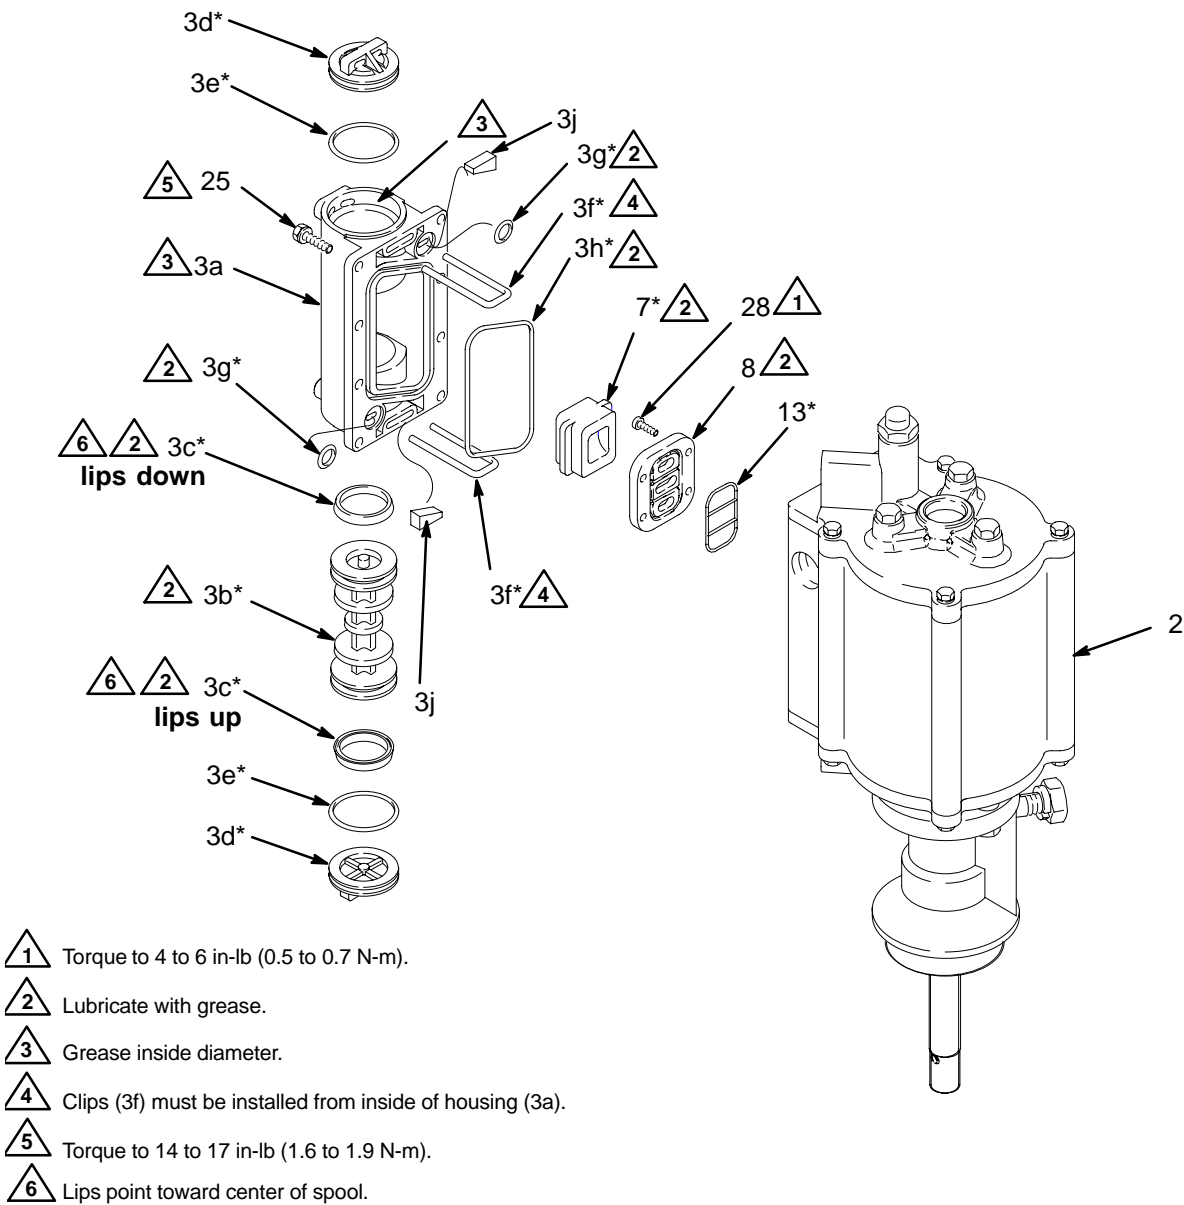

Fig. 12
1. Remove the screws (25) holding the director valve (3) to the cylinder (2). Be careful not to drop the valve cup (7) as you remove the housing; the cup can be easily damaged. Inspect the cup surface for scratches. If damaged, replace the cup. See Fig. 12.
1. Install the valve gasket (13) and plate (8) on the cylinder (2). Be sure the surface of the plate facing out is free of scratches or damage. Install the screws (28), and torque them oppositely and evenly to 4 to 6 in-lb (0.5 to 0.7 N.m).
4. Grease the valve cup (7) and the valve plate (8). Orient the cup as shown in Fig. 12. Place the cup on the valve plate so its position corresponds to the position of the spool, as you noted in step 1 at left.
5. Place the director valve housing (3a) on the cylinder (2). The spool (3b) must engage the valve cup (7), or the valve housing assembly will not fit correctly. If necessary, move the cup to engage the spool.
6. Install the screws (25), and torque oppositely and evenly to 14 to 17 in-lb (1.6 to 1.9 N.m). Be sure the o-rings (3h, 3g) do not slip out of the grooves on the housing (3a).